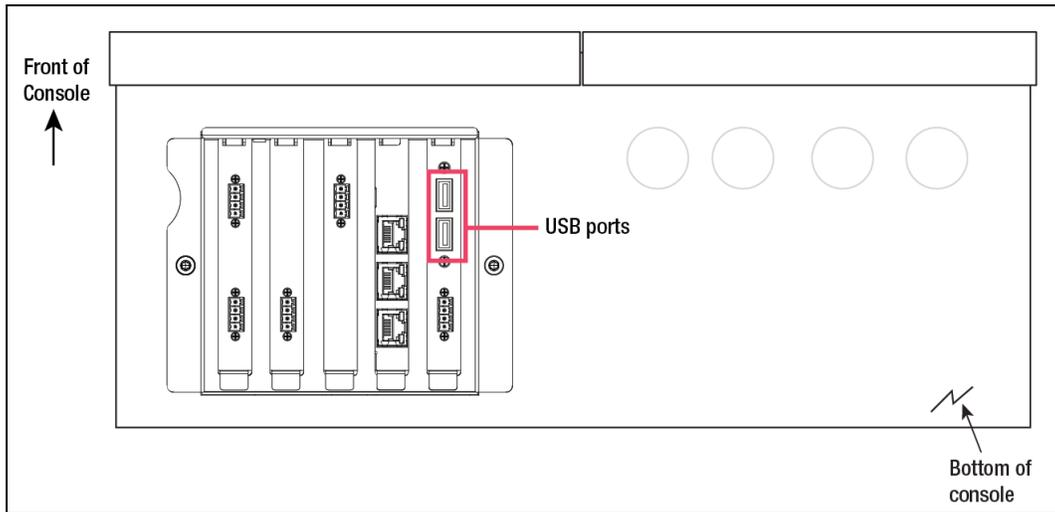

Figure 27. TLS-450PLUS USB Ports
1. Plug a USB Adapter - Feature Upgrade iButton with the In-Sump Fuel Conditioner software installed, into one of the two TLS-450PLUS USB ports located under the console comm bay (see Figure 27).